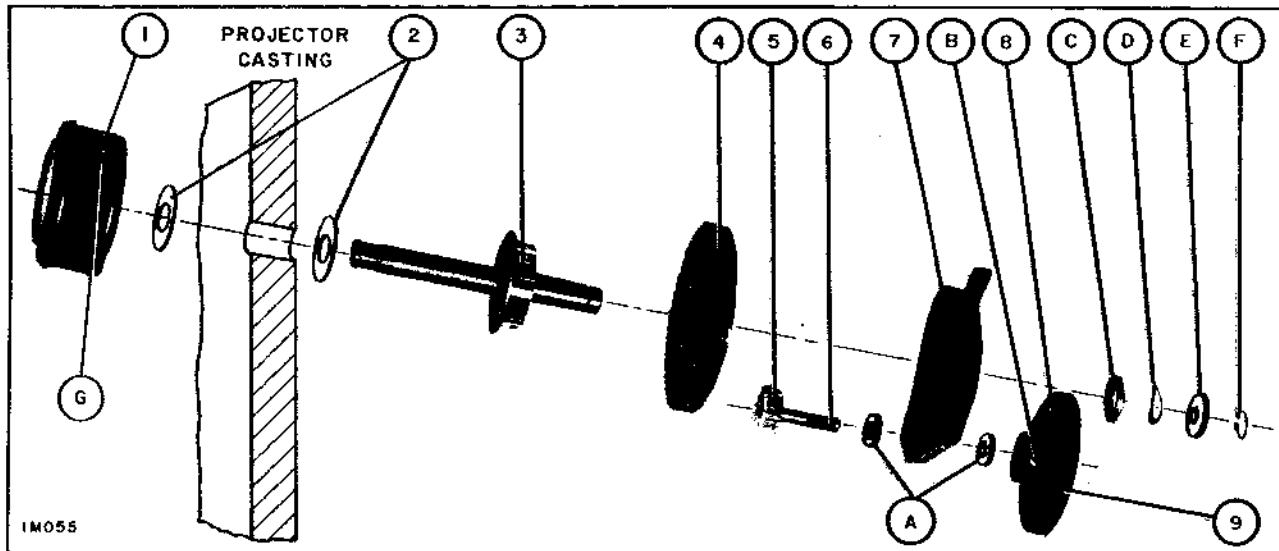

Figure 61
3. Remove retaining ring (F), washers (C), (D) and (E), and slide puck arm (7) and gear (4) from shaft (3) (figure 61).
4. To disassemble puck, loosen setscrew (B) and remove puck (8) and washers (A).
5. To remove gear (5) from shaft (6) press shaft out of gear.
6. To remove shaft and lower sprocket, loosen setscrew (G) in sprocket, slide belt from shaft and remove shaft.